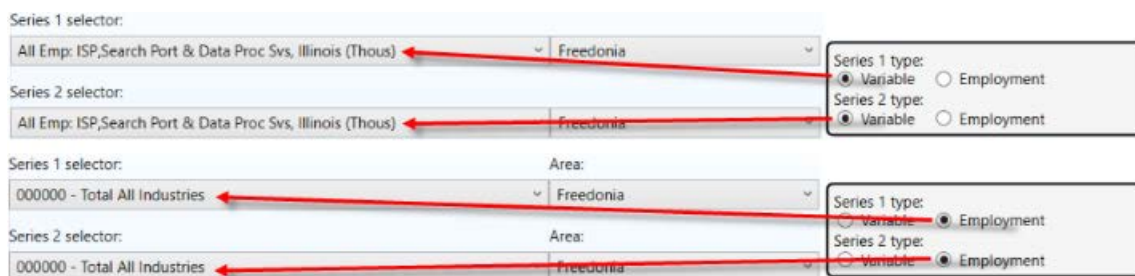

Figure 2: Series type selection options
1. Select a **Series 1 type** (Variable or Employment) radio button. The Series 1 selector options change with the Series 1 type selected (see Figure 2).
4. Select a **Series 2** radio button. The Series 2 selector options change with the Series 2 type selected (see Figure 2).